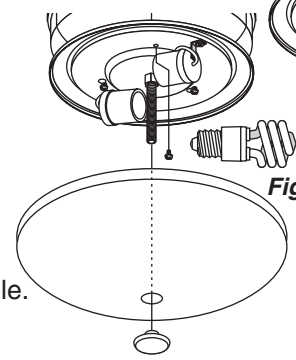

Fig. 13
- F. Install light bulbs (two 13W CFLs are included.) Fig 13.